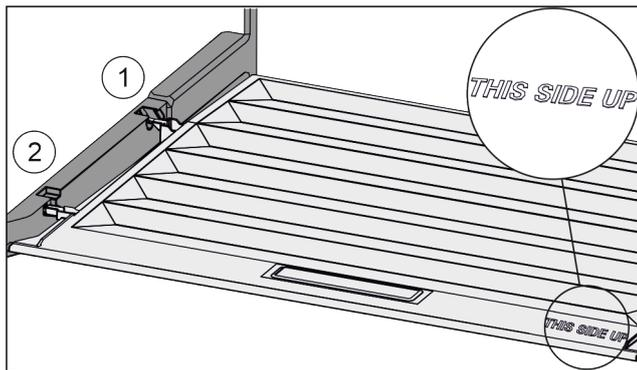

Fig. 94
- ▶ Insert the lip of the cover over the opening of the rear bracket Fig. 94 (1) and click into place Fig. 94 (2).